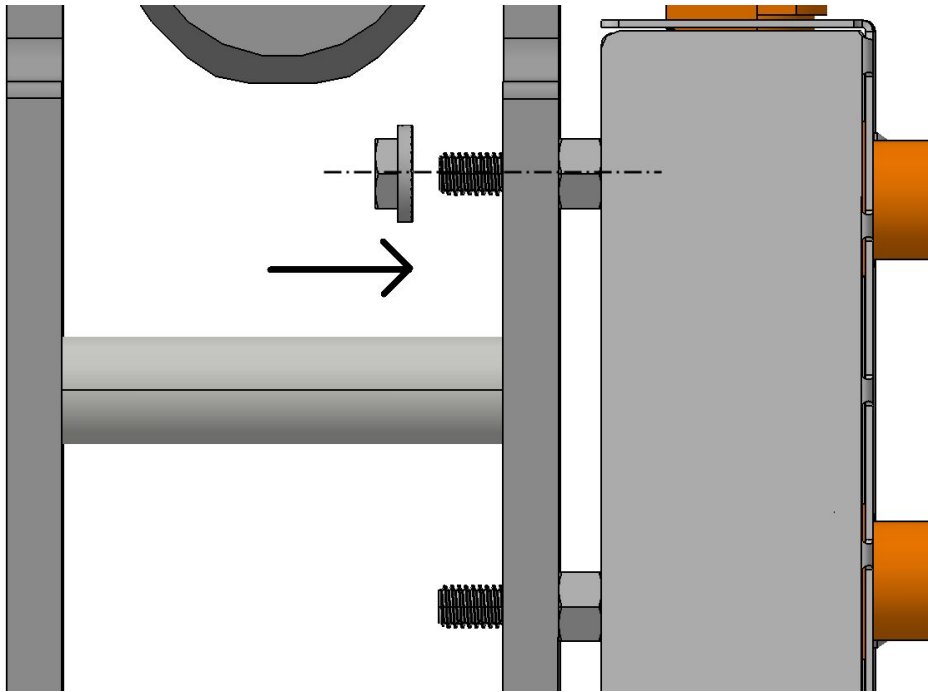

Fig. 4.27: Insert the nuts to fix the no-solder board onto the support plate
- ❑ Rotate the M5 serrated flange nut (#YTEX) in to the M5 screw head that extends past the casing (see Fig. 4.27).